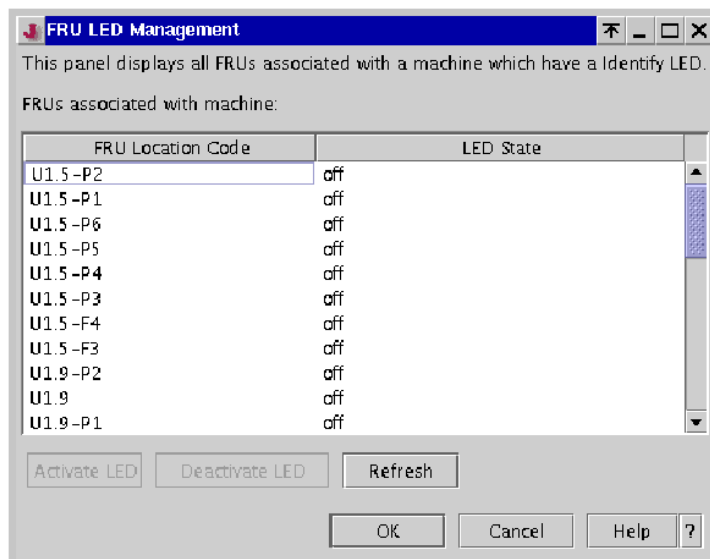

Figure 16-14 FRU LED management
5. You will see the FRU LED Management window, shown in Figure 16-14. If any of the LEDs are ON, it would mean that the system has a problem with the indicated component. If the Service Agent is configured to notify IBM of the errors to IBM, then IBM customer service representatives will be informed of the problem